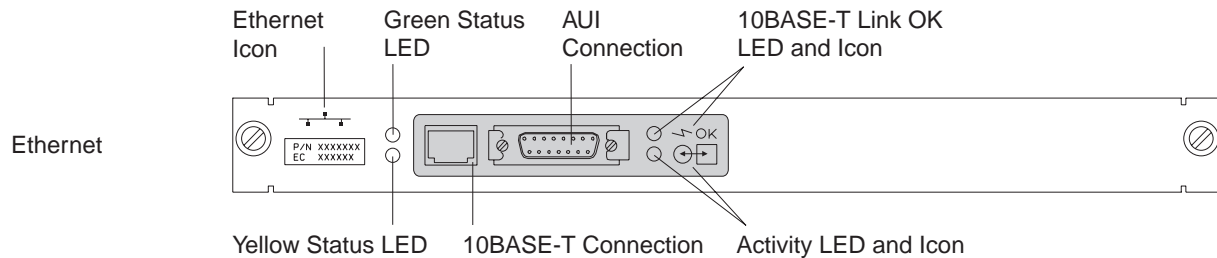

Figure 2-9. Ethernet Attachment Module
- c. ____ Plug wrap plug **C** (PN 70X8670) in the AUJ connector of the Ethernet module (refer to Figure 2-9 on page 2-9).